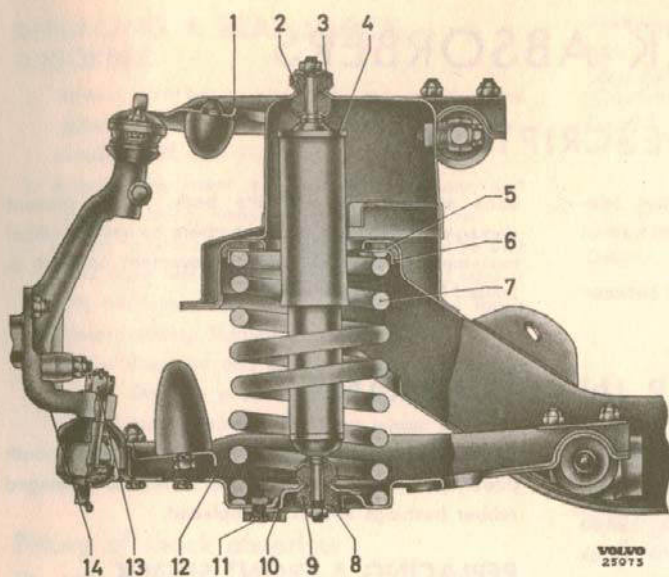

Fig. 9-4. Front spring and shock absorber
Check the spring before fitting it. Compress the spring fully and then check its length under the loading shown in the specifications. Replace sagging or damaged springs. Check the rubber spacer (5, Fig. 9-4).
Place the rubber spacer (5, Fig. 9-4) and washer (6) in position in the spring seating in the member and fit the spring in reverse order to that used when removing.
4. Fitting is carried out in the reverse order to that used when removing. Place the washers as shown in Fig. 9-4. Tighten the nuts until $1/8"$ (3 mm) of the threaded end of the attaching bolt protrudes outside the nut.